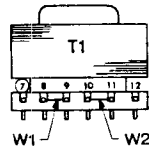

Figure 5-4 Transformer T1
4. Refer to the transformer in Figure 5-4. Remove jumpers W1 and W2 from the transformer. (Leave the jumper between pins 11 & 12 intact.)